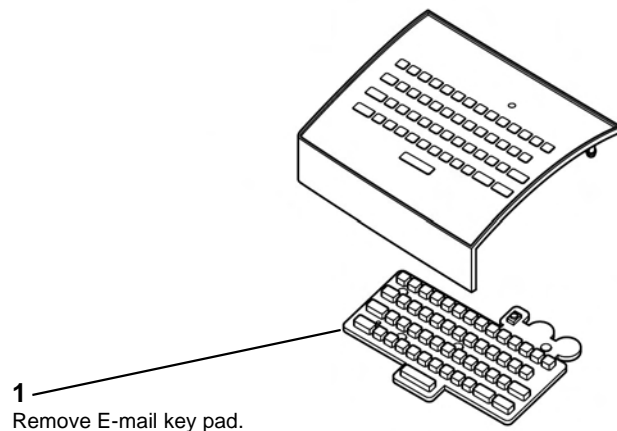

Figure 8 E-mail key pad removal
9. Remove the E-mail key pad, Figure 8.